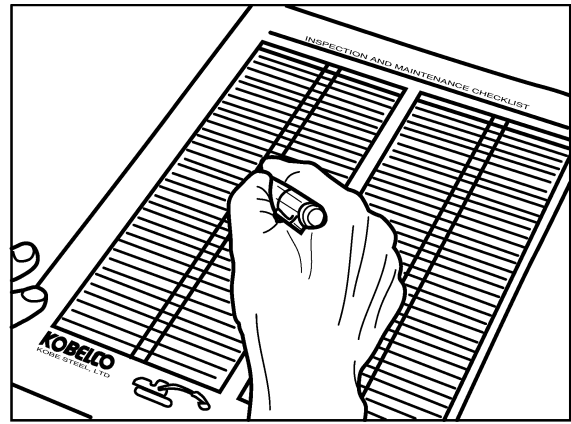

FIGURE 4.3A
- A. It is recommended by KOBELCO AMERICA INC., that an inspection and maintenance schedule be developed and maintained on a regular basis for this machine. Developing and maintaining such a schedule, helps to keep the machine in optimum operating condition. See Figure 4.3A.